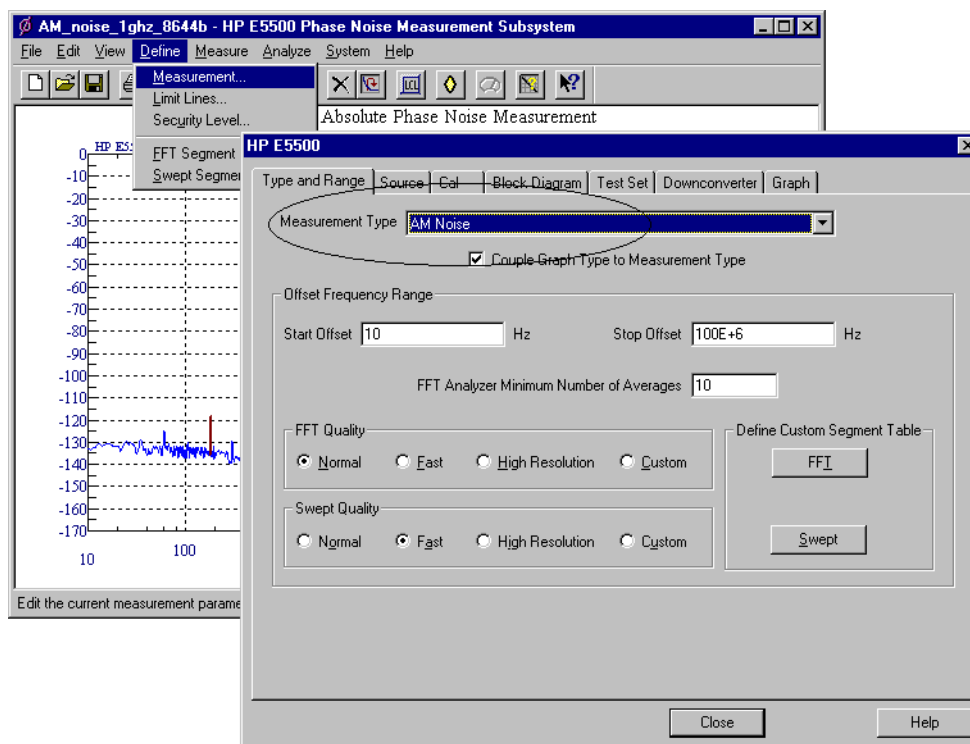

Figure 13-3 Navigate to AM Noise
- 6 From the Measurement Type pull-down, select **AM Noise**. See Figure 13-3.